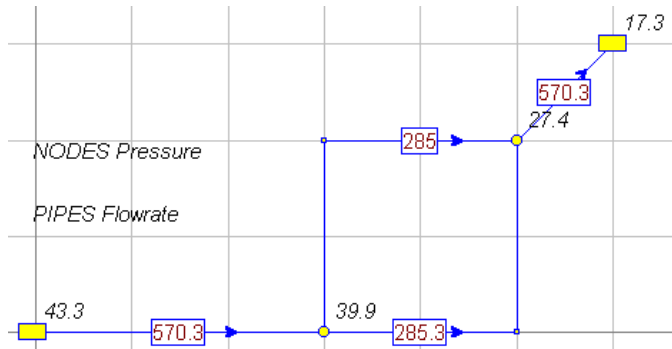

Figure 3 Case 1 - Pressure and Flow
2. Click on Labels (Main menu) and select Pipe Results | Pipe Result A and Node Results | Node Result A to show the results depicted in the Results Selection bar on the bottom right of the screen. You can click on the P selector to change the pipe results (to Flow, for example) and the N selector (Pressure for example) to change to the node results. A helpful selection is Loss (head loss) for pipes and HGL for nodes because it provides a very useful view of the system operation. Printouts based on these selections are shown (Figure 3 and 4).